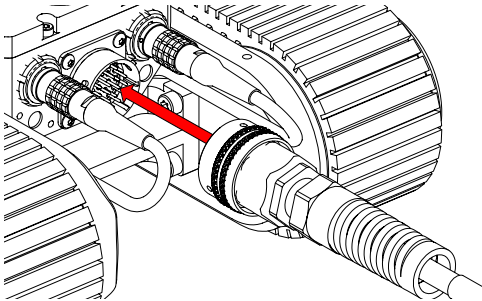

Fig. 49 - Align pins
1. Align the pins of the umbilical to the connector at the rear of the **TERAX** (Fig. 49).